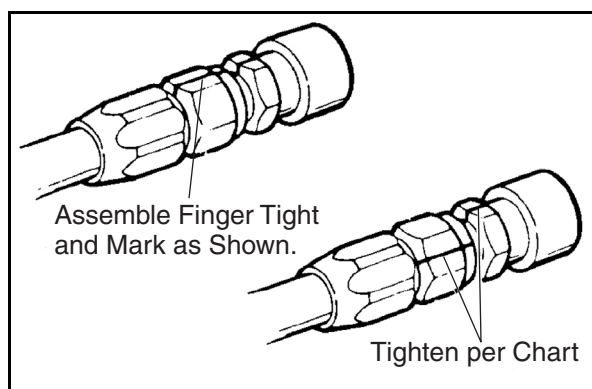

Figure 8C-1. Reference Marking
2. For tightening reference mark a line lengthwise on the flats of both the nut and adapter fitting with a marker shown in Figure 8C-1.